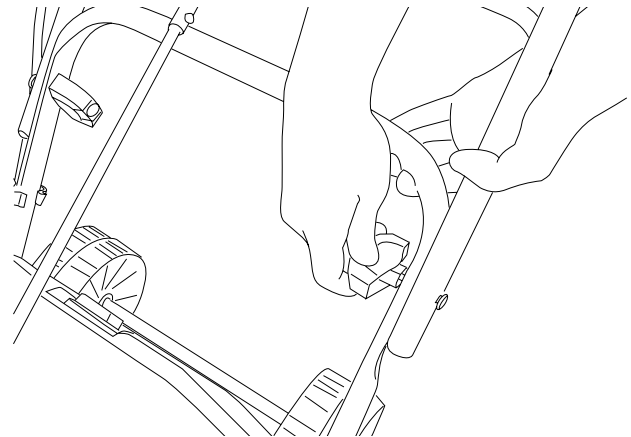

Figure 3
2. Secure the connection of lower frame and middle frame by fastening the knobs on each side (Fig. 3).